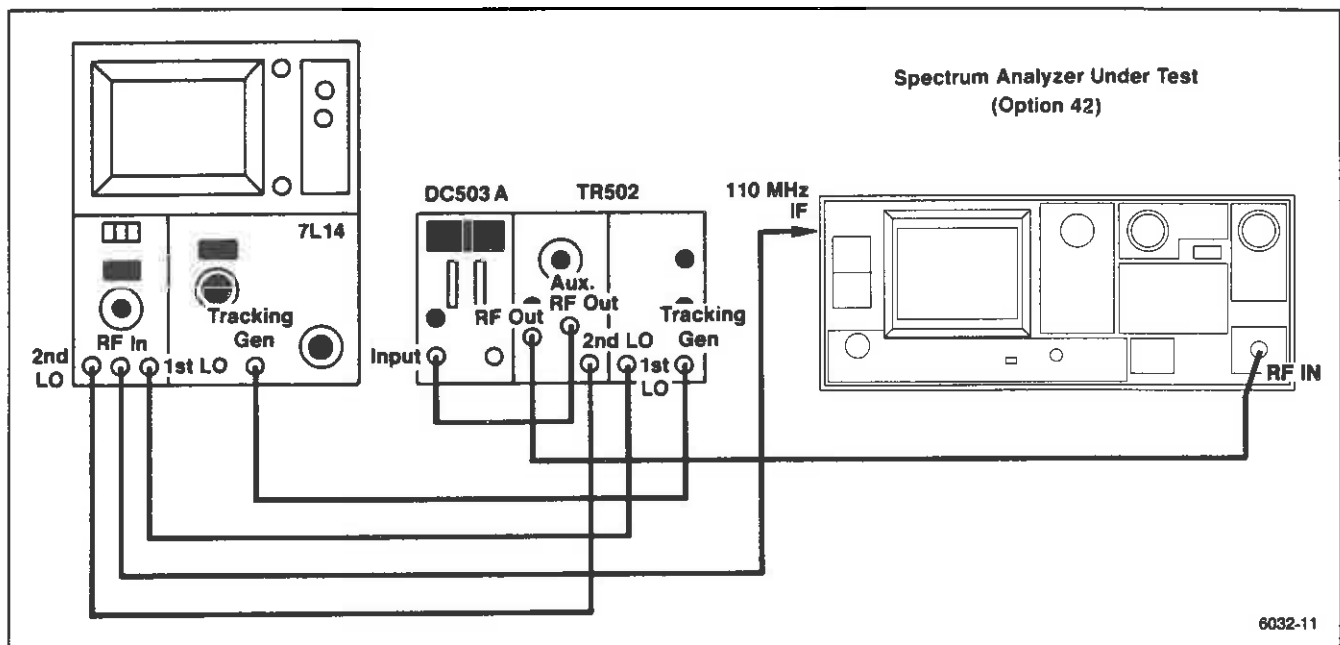

Figure 4-27. Test equipment setup for checking Option 42 frequency characteristics.
- a. Connect the test equipment as shown in Figure 4-27.